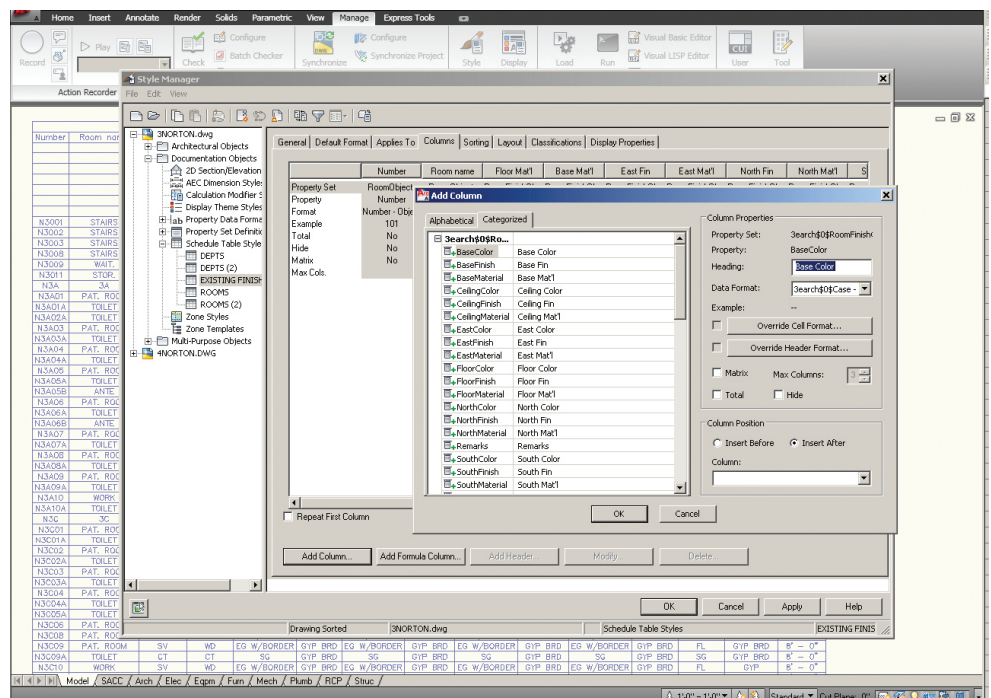

Figure 1: Schedule Table Style – Add Column
- **Columns** allow you to add columns to represent properties that are reported in the schedule table style. You can also add column headings, edit column data, and edit column placement in your style (see Figure 1).